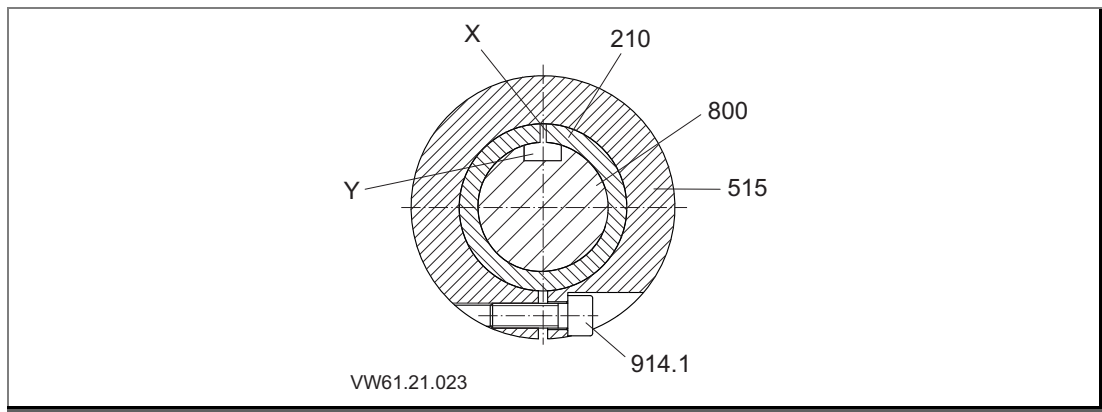

Fig. 7
1. Plug the motor shaft end into the shaft (210). The motor shaft key nut and the slit in the shaft (210) have to be congruent and lay opposite the slit in the supporter ring (515). See "Fig. 7" on page 46.